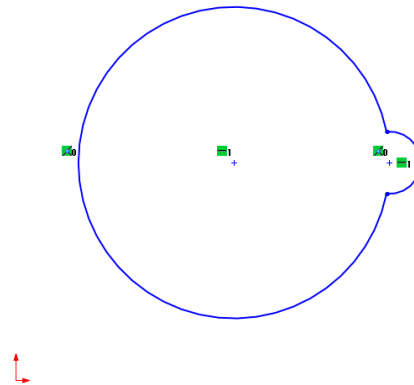

Figure 3-75 Sketch after trimming the unwanted entities
- c. Draw the outer loop of the sketch, refer to Figures 3-75 and 3-76.
11. Trim the sketch such that it looks similar to the one shown in Figure 3-75. Exit the **Trim** tool.